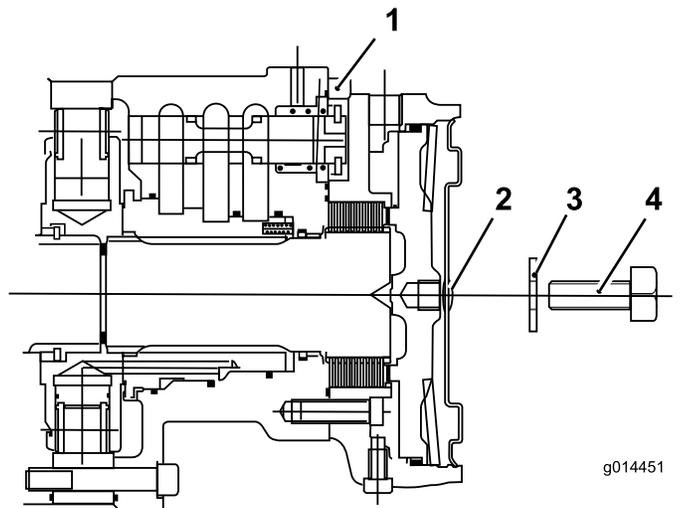

Figure 42
6. Assemble a bolt 12 x 40 mm and washer 12 mm into the hole at the center of the motor end plate (**Figure 42**).
7. Tighten the bolt in the threaded hole in the brake piston until the brake releases (**Figure 42**).